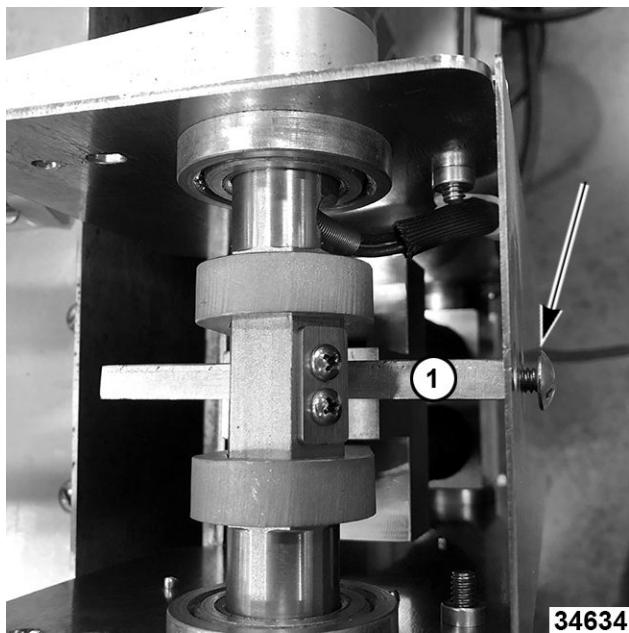

Fig. 21
6. Secure bracket by threading one mounting screw back into bracket (1, Fig. 21) through rear of cover.
TOP VIEW SHOWN IN Fig. 21